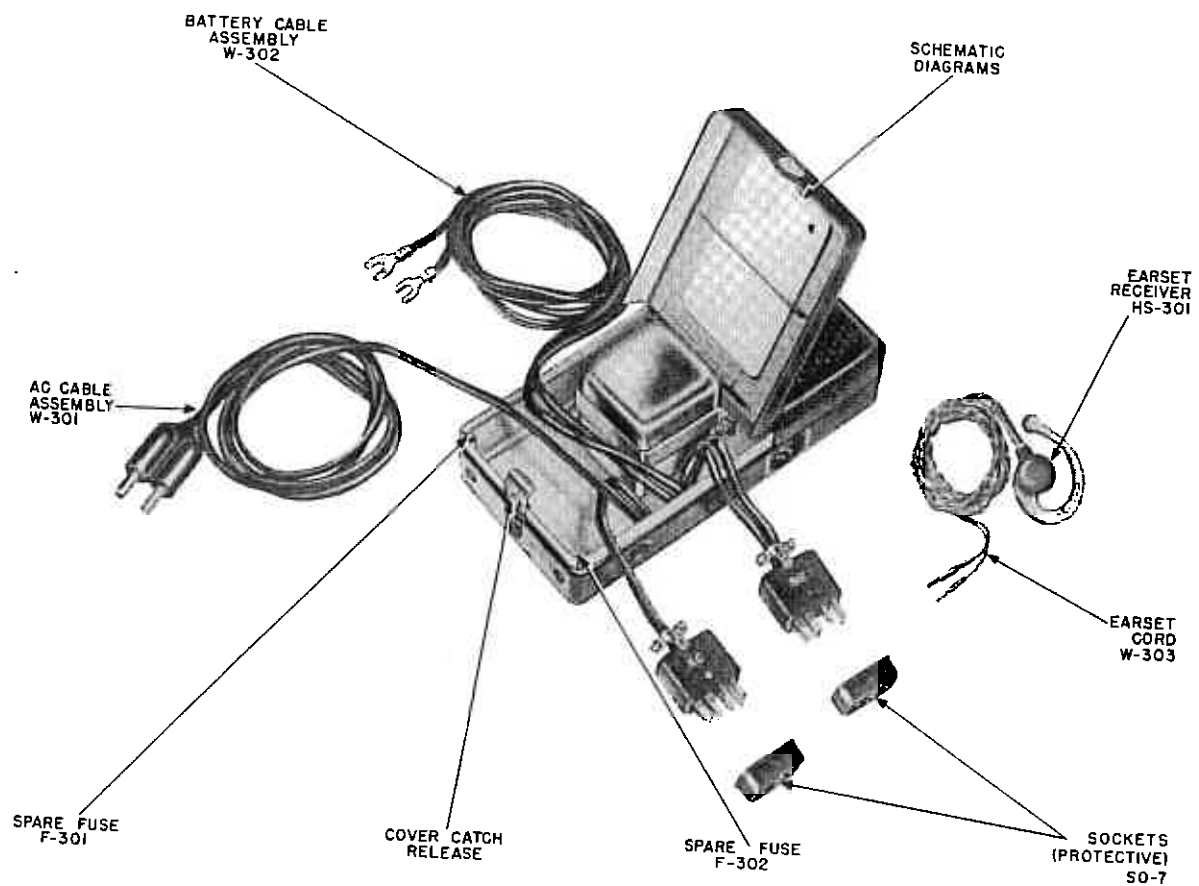

Figure 2. Filter-Accessory Unit RA-6 opened, showing accessories.
- (4) Provides storage space for accessories and power cables. See Figure 2.